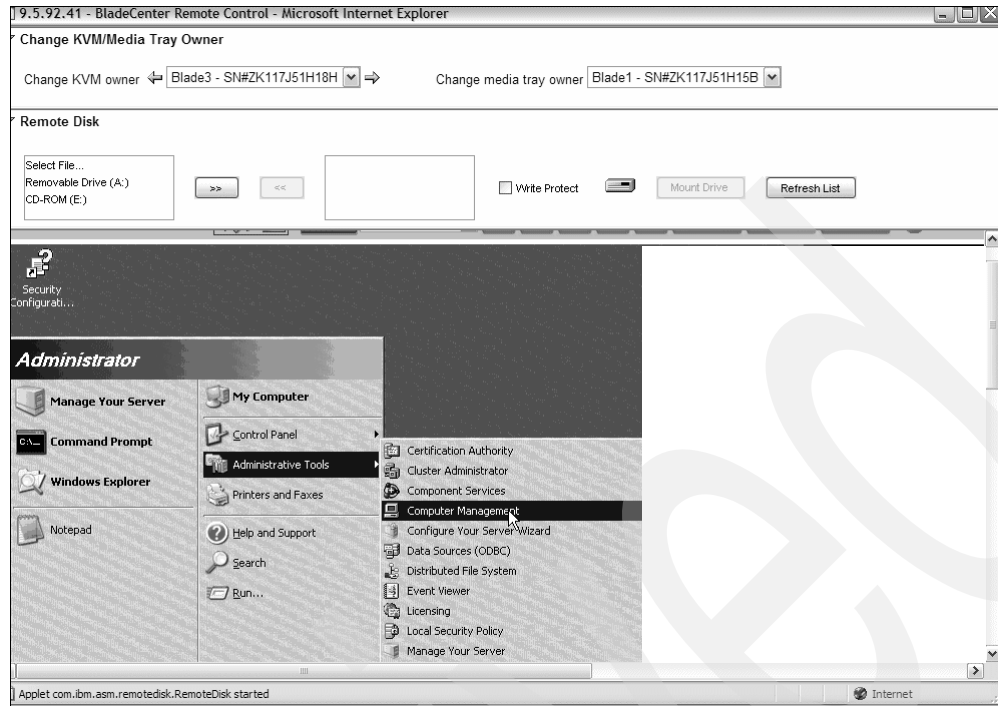

Figure 4-70 Access Computer Management to configure disks
- k. Configure new disks in Windows (Figure 4-70 on page 101):